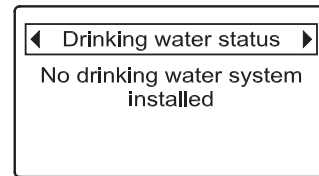

FIG. 110
If a communications-capable drinking water filtration (RO) system has been added to the remote, it will have its own status screen displayed during normal operation. Otherwise, a drinking water status screen will display a message like the one shown in Figure 110.
1. Press the remote's LEFT (◀) or RIGHT (▶) buttons to manually advance to the **Drinking water status** screen (See Figure 110).